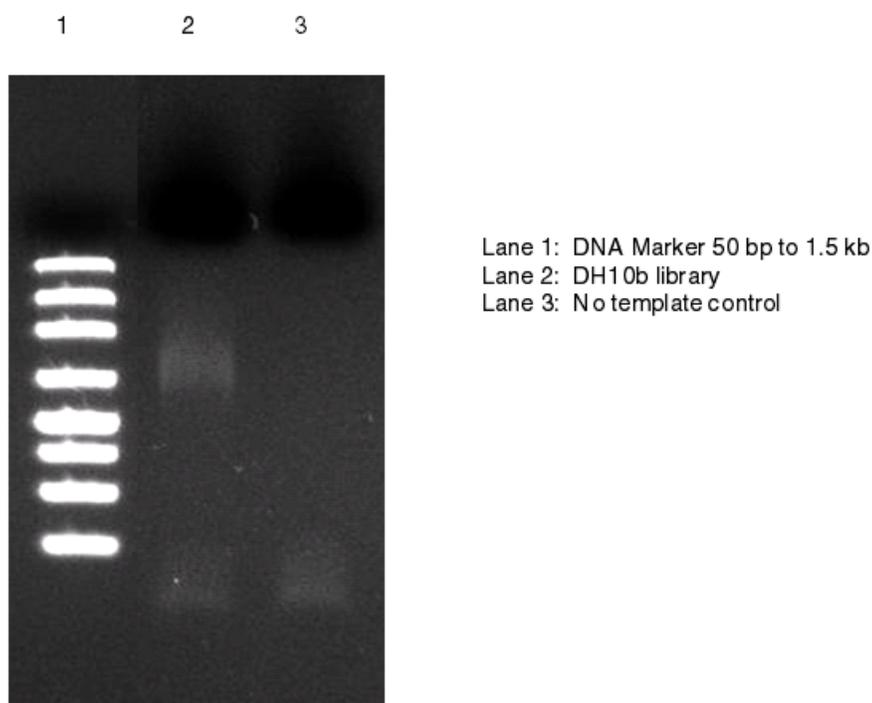

Figure 11 Mate-paired library amplification sample run on a Lonza FlashGel.
2. Run the FlashGel for 6 minutes at 275 V (see Figure 11 on page 67).